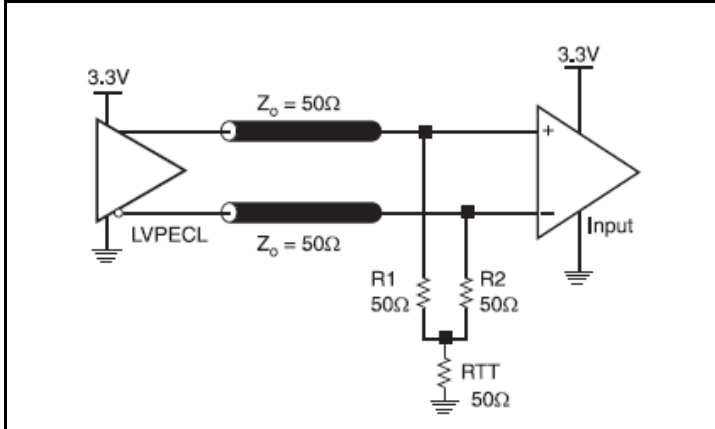

Figure 3A. 3.3V LVPECL Output Termination
*Figures 3A and 3B* show two different layouts which are recommended only as guidelines. Other suitable clock layouts may exist and it would be recommended that the board designers simulate to guarantee compatibility across all printed circuit and clock component process variations.
11	Termination for 3.3V LVPECL Outputs - corrected Figure 3A. Updates throughout the datasheet: - header/ footer to new format - deleted "IDT" prefix from part number.